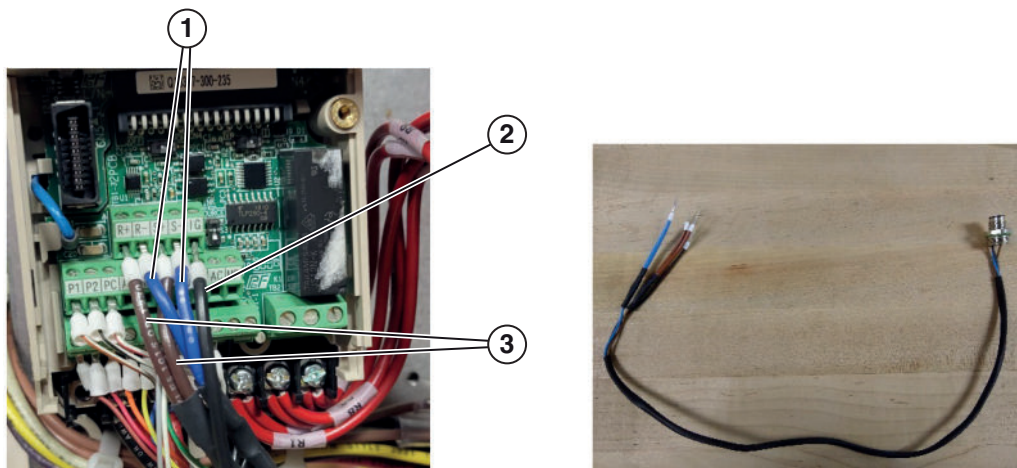

Figure 3: M12 Data Port Cable and Connection
2. Disconnect the M12 data port cable (**Figure 3**) from the VFD using a small flathead screwdriver and tighten the loose screws back down.